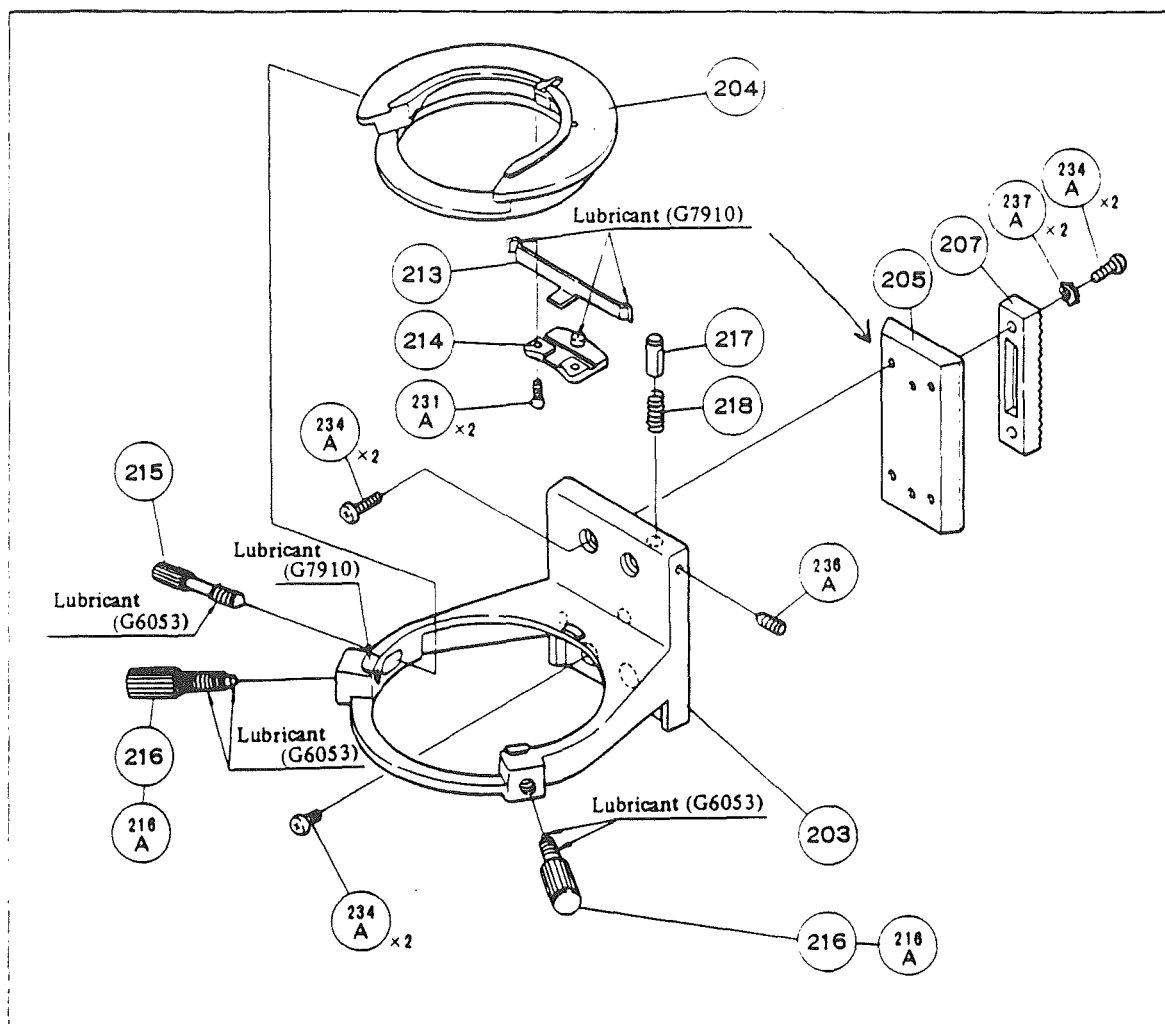
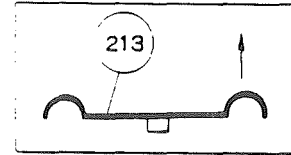

Fig. 27
Fig. 39
- 6) If stopper pin ( 217 ) has once been separated, because the top end is liable to be damaged, use the new one, which will facilitate reassembling with high accuracy. (Fig. 27).
- 6) To attach the condenser mount follow the procedure as below (Fig. 27):
- i) Attach spring retainer (214) to condenser receptacle (204) with screws (231A) x2.
- ii) Insert plate spring (213) between (204) and (214). Bend the spring as shown by the arrow in Fig. 39.
- iii) Apply G7910 to the sliding surface of condenser centering mount (203), and condenser receptacle (204).
- iv) Insert (204) into (203).
- v) Screw condenser clamp screw (215) into (204) through the opening of (203).
- vi) See that no seizure occurs between (203) and (215), when manipulating right and left condenser centering screws (216) to bring (204) to the center, and (215) operates smoothly.